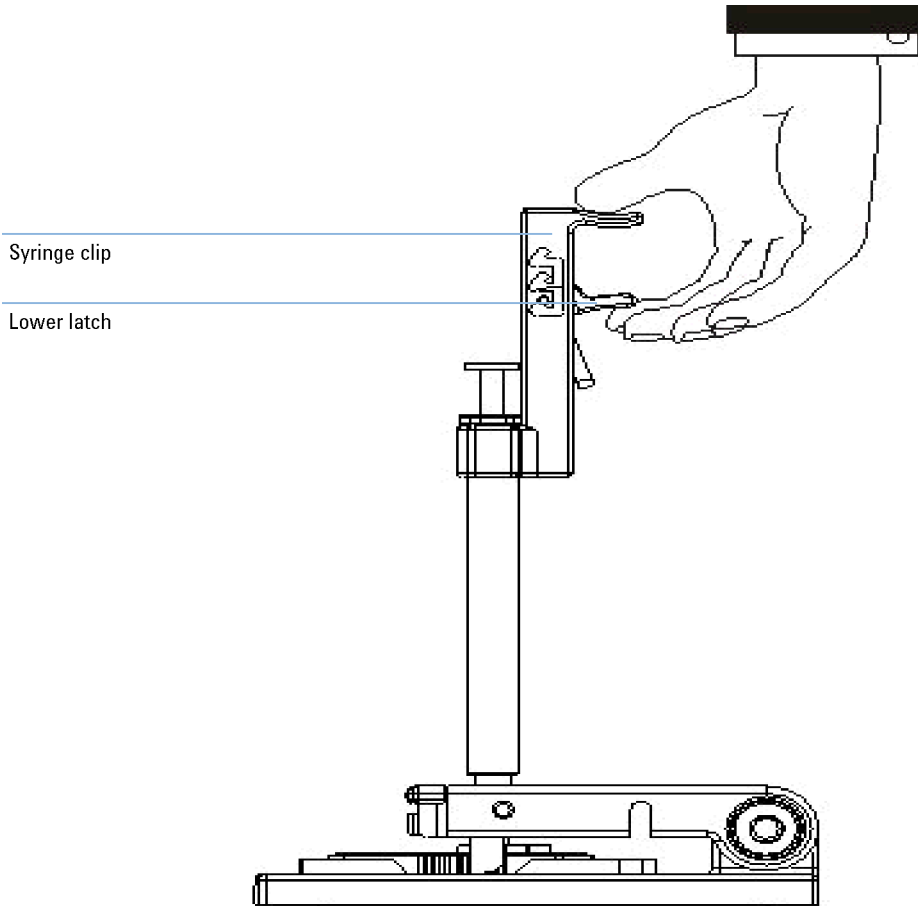

Figure 9 Releasing the plunger from the syringe
- 6 Wait for 5 seconds and lower latch of the clip to release the plunger as shown in Figure 9 on page 173.